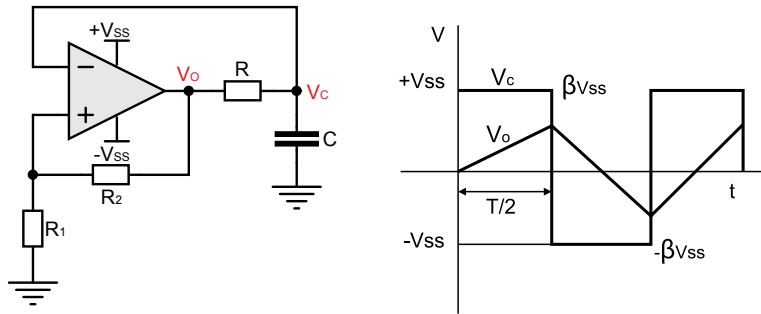

Figure 2.4: Astable Multivibrator and its characteristics
If one applies a step of peak voltage  $V_p$  to the unity gain amplifier, and if  $V_p \cdot GB < \text{slew rate}$ , then the output appears as shown in Figure 2.4 if  $Q > \frac{1}{2}$  or  $\xi < 1$ .
An astable multivibrator is shown in Figure 2.4. The square and the triangular waveforms shown in the figure are both generated using the astable multivibrator. We refer to  $\beta$  as the regenerative feedback. The time period of the multivibrator is given by
- 3 Design an astable multivibrator using charging and discharging of capacitor C through resistance R between input and output of the Schmitt trigger. See Figure 2.4. Assume that frequency  $f = \frac{1}{T} = 1,5kHz$ .